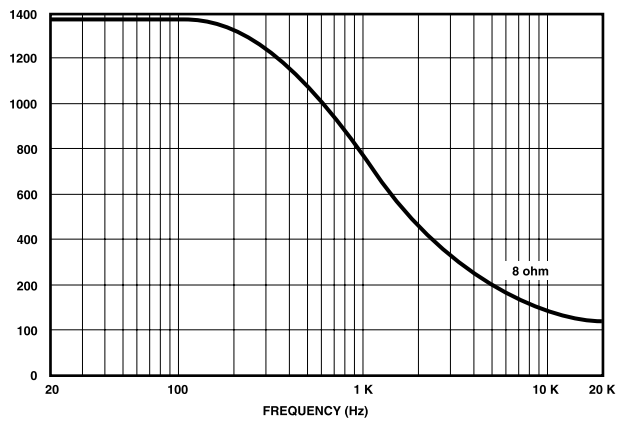

Figure 2.4 Typical Damping Factor
**Damping Factor:** Greater than 1,000 from 10 Hz to 400 Hz (see Figure 2.4).